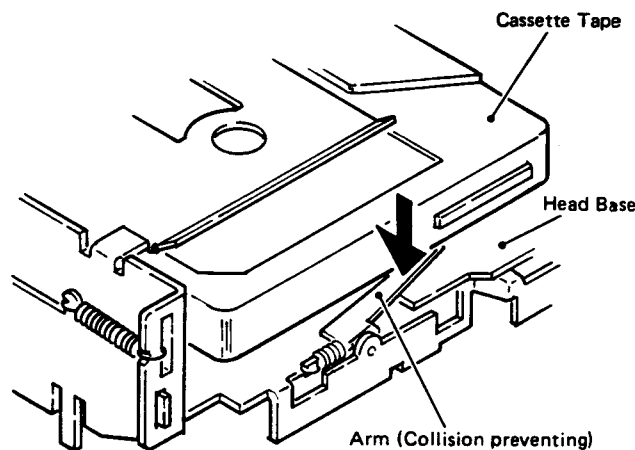

Fig. 9
- (1) When a cassette tape is inserted, a lever pushes against an arm, which then turns ON the motor and tape/tuner (tape side) switches, in this given order.
- (2) When a cassette tape is set, the arm of Fig. 9 (collision preventing) gets depressed, putting the head base in forward movable state.